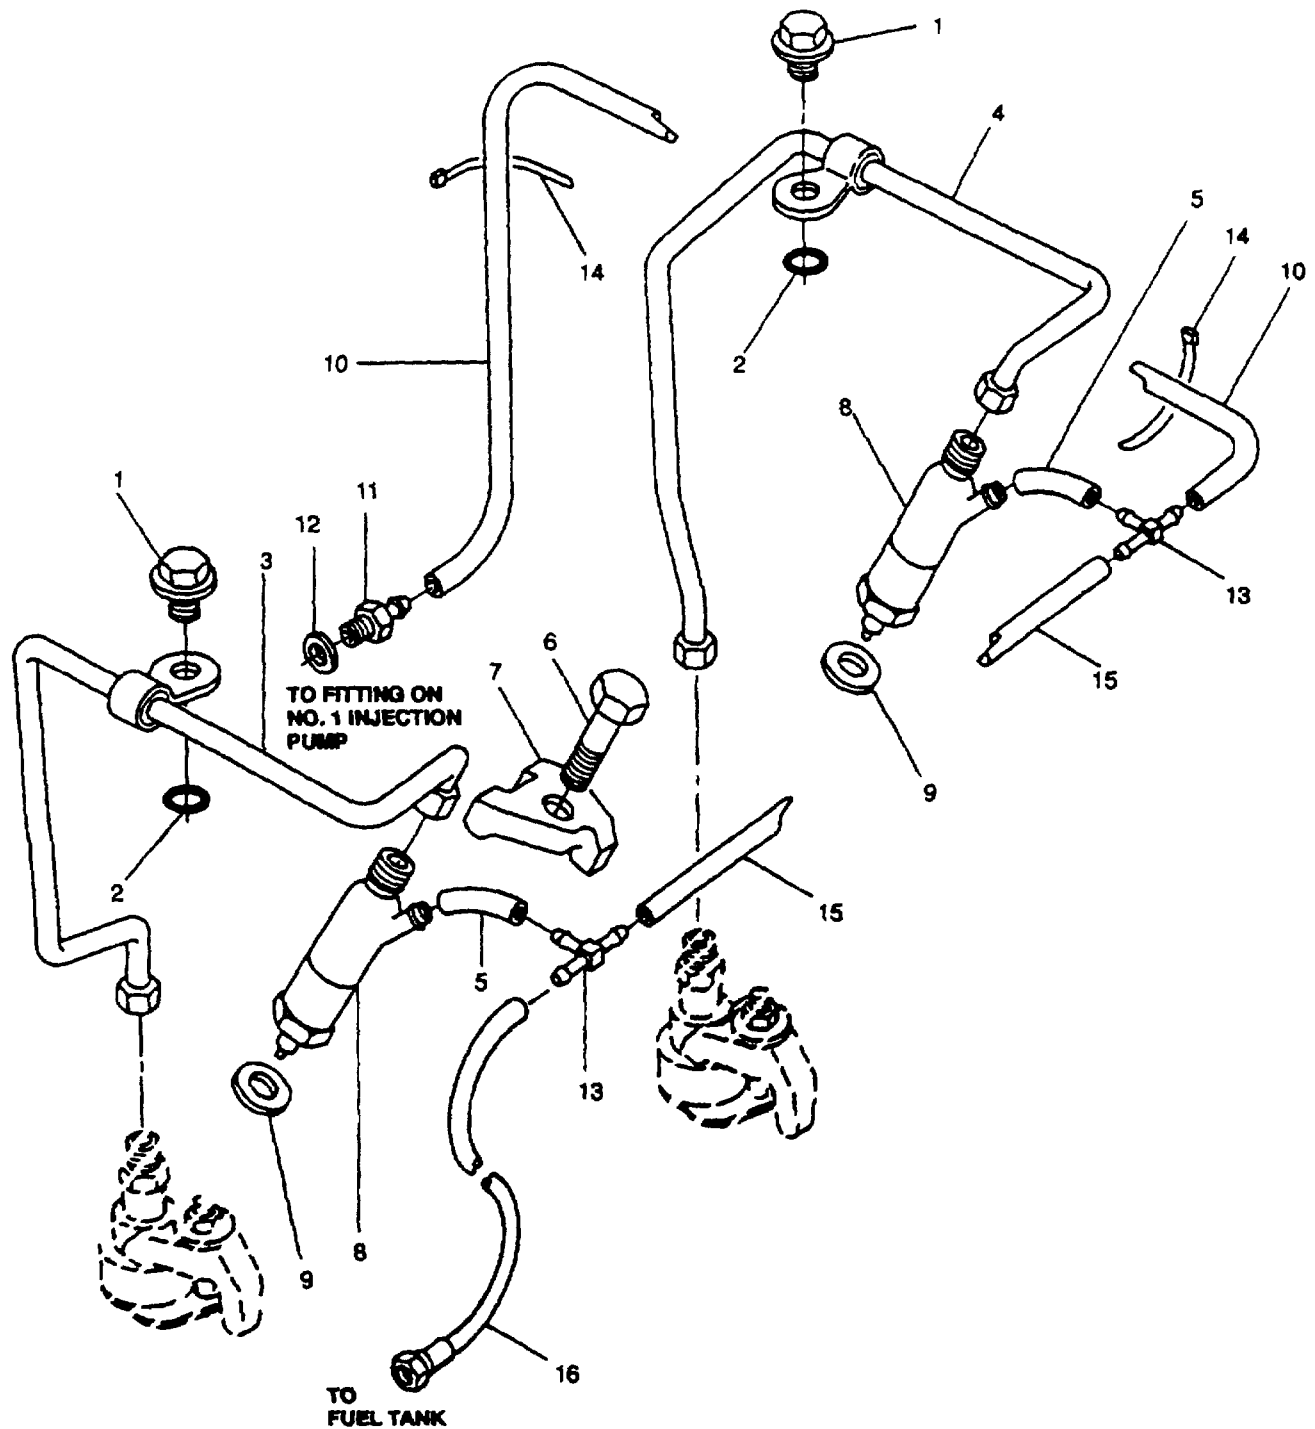

FIGURE 3-13. Fuel Injector, Fuel Injector Pipes, and Fuel Return Line
- a. Disconnect and remove fuel injector pipe (3 or 4, FIGURE 3-13). Refer to paragraph 3-18.1.
- b. Disconnect fuel return hose (5) from injector (8).
- c. Remove bolt (6) securing clamp (7); remove clamp.
- d. Remove fuel injector (8) from cylinder head.
- e. Remove injector copper sealing washer (9) from cylinder head taking care not to damage seating area.
**If injector sealing washer (9, FIGURE 3-13) has been used more than once it will become compressed and may adversely affect combustion. It is recommended that new injector sealing washers are installed on assembly. Ensure that two washers are not installed to an injector.**
- c. Lightly smear a very small amount of general purpose grease (630AA) to one side of new injector sealing washer (9). Place one washer only over each injector nozzle greased side first.
- d. Install injector (8).
- e. Install damp (7) and finger tighten bolt (6).
- f. Install a new preformed packing (2) into recess on cylinder head cover.
- i. Tighten injector clamp bolt (6) to 186 in-lbs (21.0 Nm).
- k. Install injector fuel return hose (5).
- a. Disconnect hose (10, FIGURE 3-13) from union (11).
- b. Remove union (11) and washer (12) from end of fuel supply hose.
- c. Disconnect hose (10) from tee fitting (13). Remove tiedown straps (14) and remove hose (10). Discard tiedown straps.
- d. Remove hoses (5) from fuel injectors (8) and tee fittings (13).
- e. Remove tee fittings (13) from hose (15); remove hose (15).
- f. Disconnect hose (16) from tee fitting (13); remove hose (16).
- g. Loosen nuts on fuel injector pipes (3 and 4) at fuel injection pump and fuel injector (8).
- h. Remove cylinder head cover nuts (1) securing fuel injector pipes (3 and 4) dips; remove pipes (3 and 4) if damaged, replace preformed packing (2).
- b. Connect fuel injector pipes (3 and 4, FIGURE 3-13) to fuel injectors (8) and fuel injection pumps. Tighten nuts finger tight.
- c. Secure fuel injector pipe clips using cylinder head cover nuts (1). Tighten nuts to 78 in-lbs (8.8 Nm).
- d. Starting at fuel injector (8), tighten fuel injector pipes (3 and 4) nuts to 21.0 ft-lbs (28.5 Nm).
- e. Install tee fitting (13) into hose (16).
- f. Install tee fittings (13) in hose (15).
- g. Connect hoses (5) to tee fittings (13) and to fuel injectors (8).
- h. Connect hose (10) to tee fitting (13) and secure hose (10) with new tiedown straps (14).
- i. Install union (11) and washer (12) to end of fuel supply hose.
- j. Connect hose (10) to union (11).